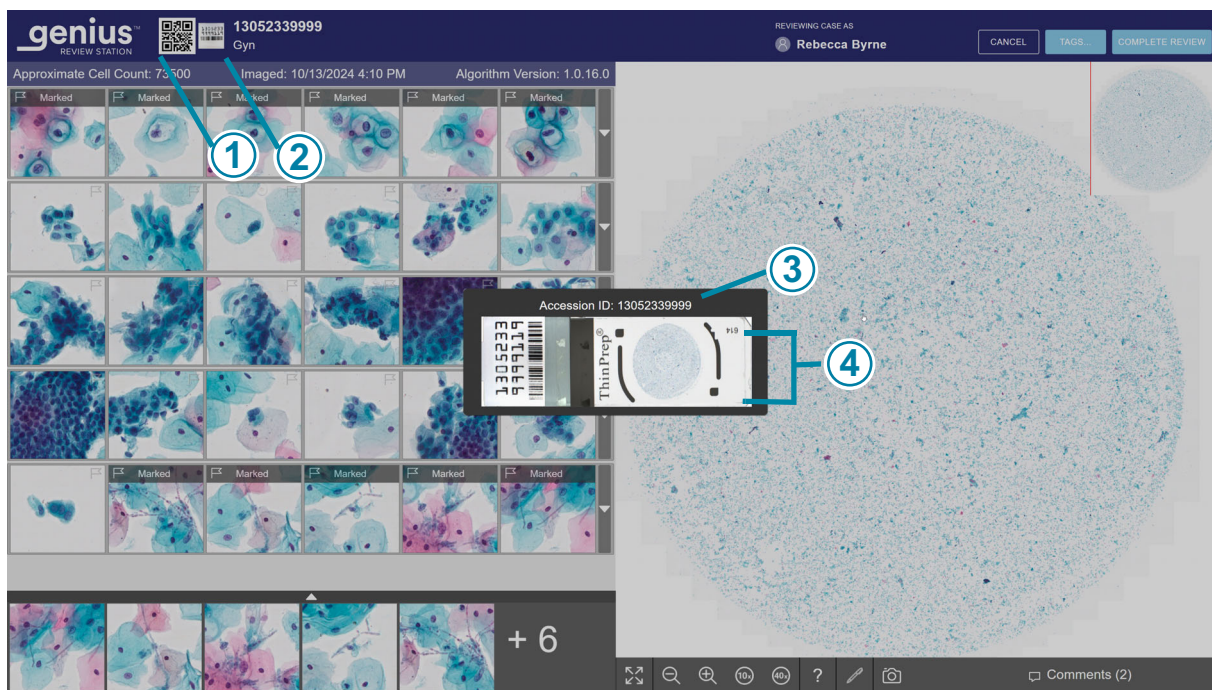

Figure 2-3-4 Macro image shows slide label area, example of a case with Genius Cervical AI
①	<p>Accession ID and macro image of the slide label area</p> <p>The Review Station displays the Accession ID as text and as a QR code.</p> <p>To see the macro image of the slide, click on the macro image of the slide label area. Refer to Figure 2-3-4.</p> <p>To see a larger image of the QR code, click on the QR code.</p> <p>To scan the Accession ID with an optional barcode scanner, scan the macro image of the slide, the smaller QR code of the Accession ID, or the larger image of the QR code.</p>
②	<p>Above the gallery, the approximate cell count, date the slide was imaged, and algorithm version display. Refer to “Cell count, date and algorithm version” on page 3.12 for more details.</p>
③	<p>The gallery of 30 tiles: five rows of six tiles. For Gyn cases only. Refer to “Review the Gallery of Objects of Interest (OOIs), Gyn Case” on page 3.11 for more details.</p>
Key to Figure 2-3-4